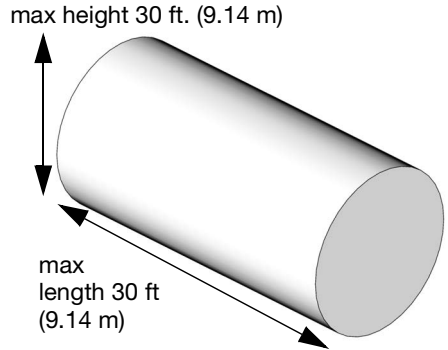

FIG. 16
- Tank end walls must be flat; they cannot be any other shape, including belled (FIG. 16). If needed, use a non-standard tank.